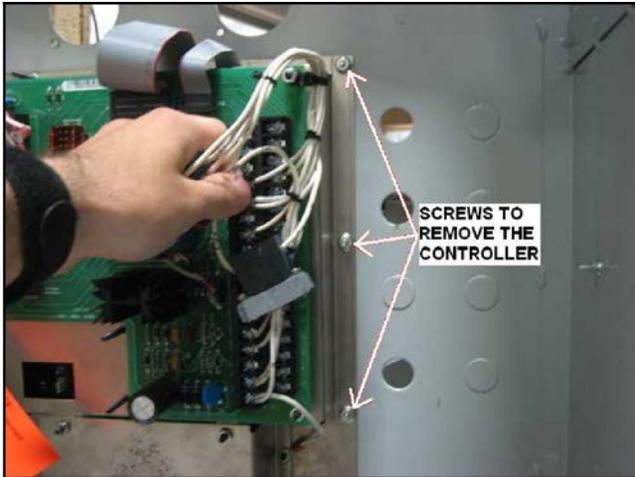

Figure 19 Remove Controller Screws
16. Remove the controller and the lower panel. See Figure 19 through Figure 24.